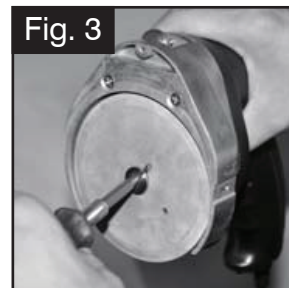

Fig. 3
4. Remove fastening screw and old knife. (Fig. 3)